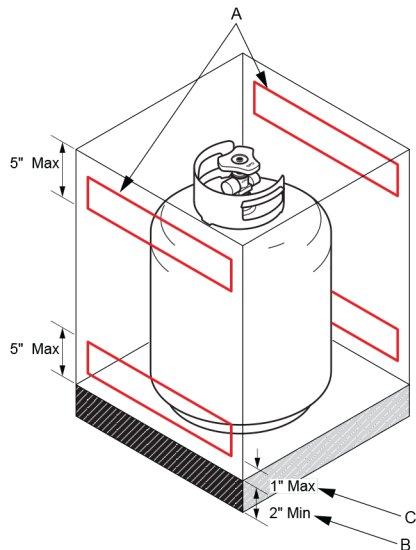

Figure 16 - Propane Tank Enclosure
- A propane gas cylinder enclosure requires 4 ventilation openings at the top and bottom of the enclosure. The openings must adhere to the minimum requirements according to the capacity of the cylinder (see Figure 16).